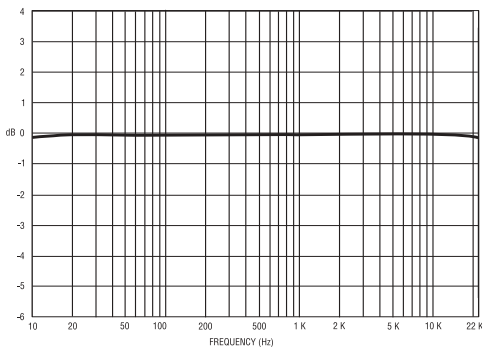

Figure 2.1 Typical Frequency Response
**Frequency Response:**  $\pm$ 0.25 dB from 20 Hz to 20 kHz at 1 watt (See Figure 2.1).